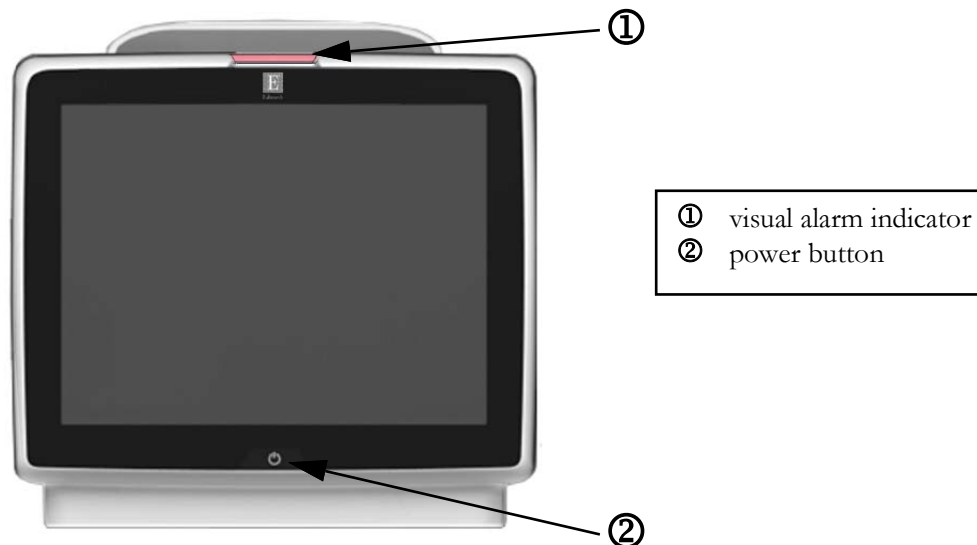

Figure 3-1 HemoSphere advanced monitor front view
To power the monitor off, touch the power button. See ② in Figure 3-1 on page 72. The following options will be displayed: